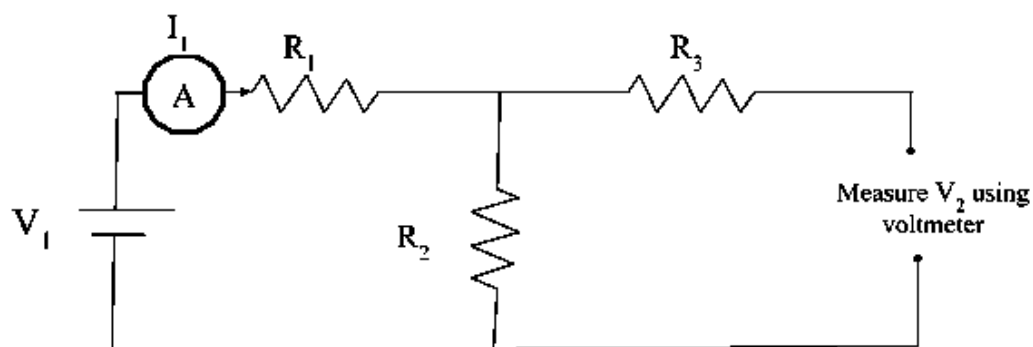

Fig 14.1 Sample circuit case -1
1. Connect the circuit on breadboard as shown in figure 14.1